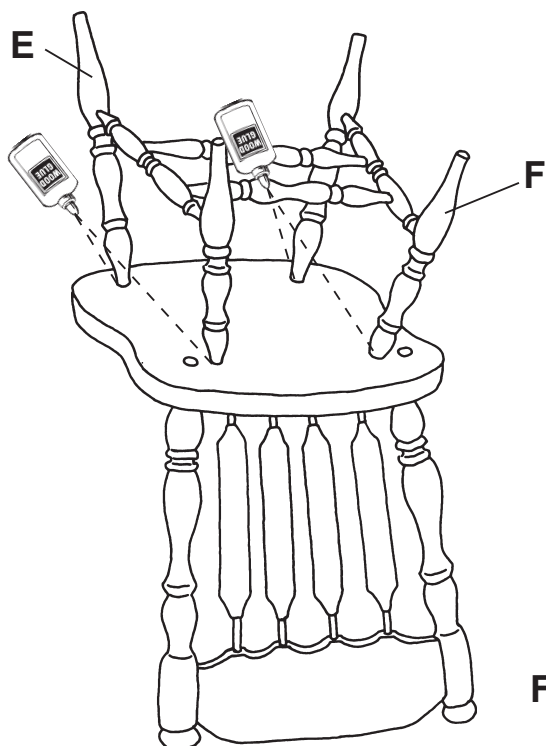
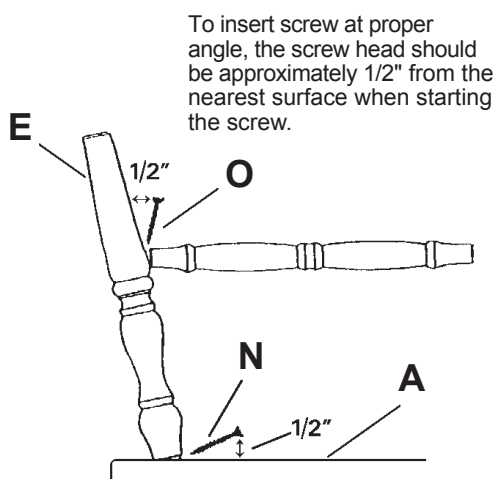

FIG. 7
FIG. 8
- 7) Apply a thin coat of glue in the four holes in the bottom of the seat. The shorter back legs (F) go into the deeper set of holes in the back of the seat. (See FIGURE 7). Use a rubber mallet to tap legs evenly into the seat until the shoulder of each leg is in contact with the bottom of the seat. After all legs are in place, set the chair on a hard flat surface to make sure that the legs are even, so the chair does not wobble. If the chair does wobble, determine which two legs seem to be shorter (they will be diagonally across from each other). Turn the chair over and pull these legs toward each other. Check to see if the wobble has been corrected. Repeat this step until chair sits level. For added strength, screw a #8 x 1⁵/₈" black screw (N) through each leg chuck into the seat and a #8 x 1¹/₄" black screw (O) through both side stretchers into the front and back legs. The screws must be inserted at such an angle so that they do not go through the other side of the seat or leg. See FIGURE 8.